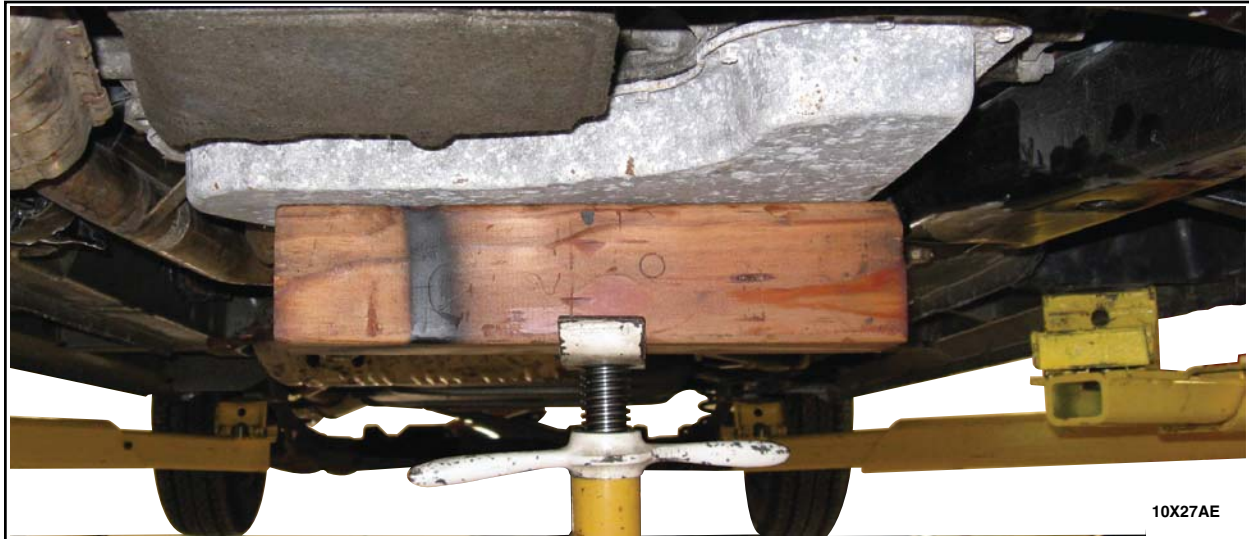

FIGURE 1
1. Using a block of wood under the transmission pan, provide support to the transmission. See Figure 1.